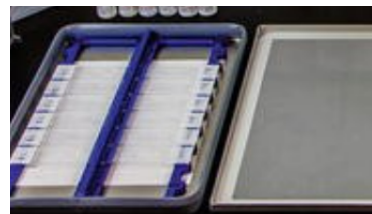

Figure 13: Hybridization Tray
8. Place slides into slide insert of hybridization tray and, using a P200 pipette, slowly **add 400  $\mu$ L of digestion buffer to the tissue within incubation frame** (Figure 13). Gently move tray side to side as needed to **ensure that digestion buffer covers the entire tissue**.